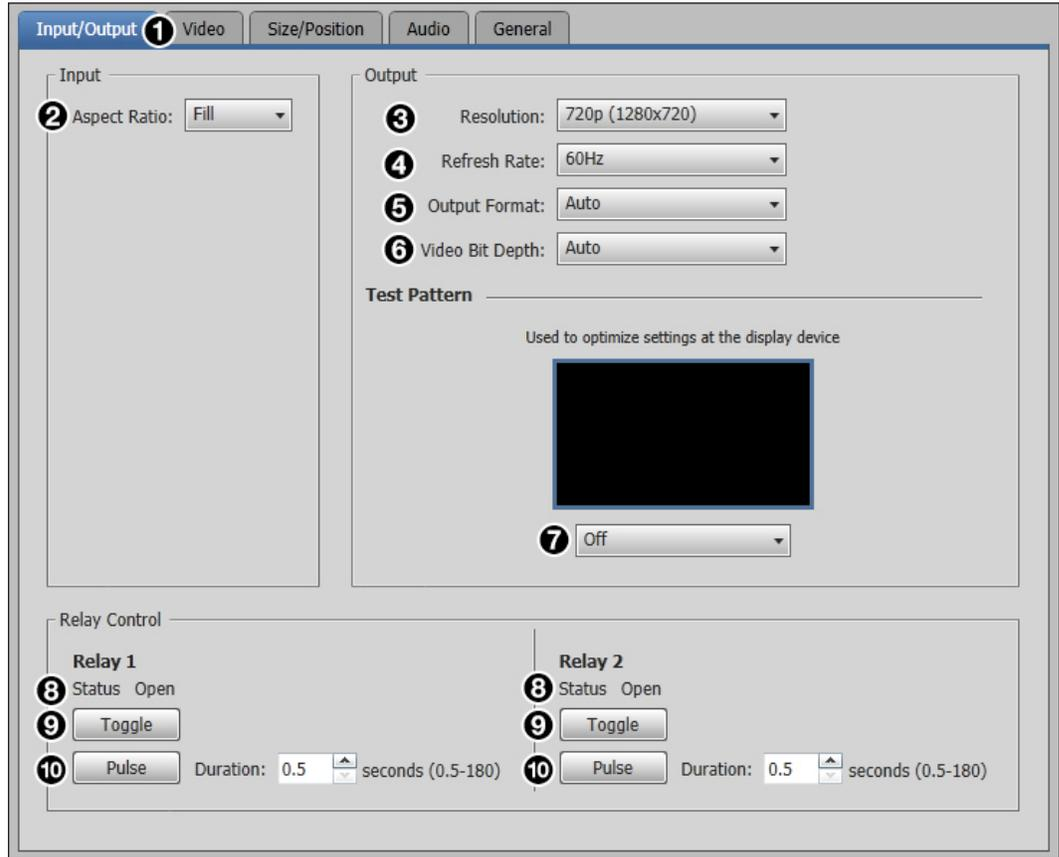

Figure 32. Input/Output Tab
Click the **Input/Output** tab (see figure 32, ❶) to open the Input/Output screen. This screen contains input and output configurations as well as relay controls.
- ③ **Resolution** (see figure 32 on the previous page) — From the **Resolution** drop-down list, select the desired resolution.
- ④ **Refresh Rate** — From the **Refresh Rate** drop-down list, select the desired refresh rate.
- ⑤ **Output Format** — From the **Output Format** drop-down list, select the desired output format. This sets the output format to a specific setting or to automatically select a format based on the display EDID.
- ⑥ **Video Bit Depth** — From the **Video Bit Depth** drop-down list, Sets the color bit depth of the output signal.